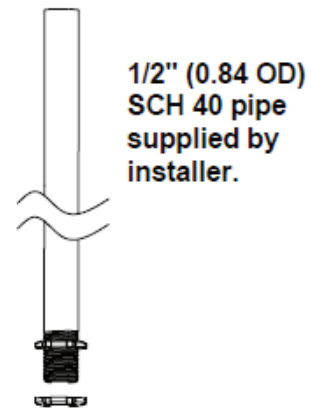

Figure 9
1. Use Nominal 1/2" (0.840 OD) schedule 40 pipe with threaded end (NPS 14 thread per inch) with appropriate hardware to connect to optional mounting bracket. See specification sheet for bracket catalog / part number for ordering. See Figure 9.